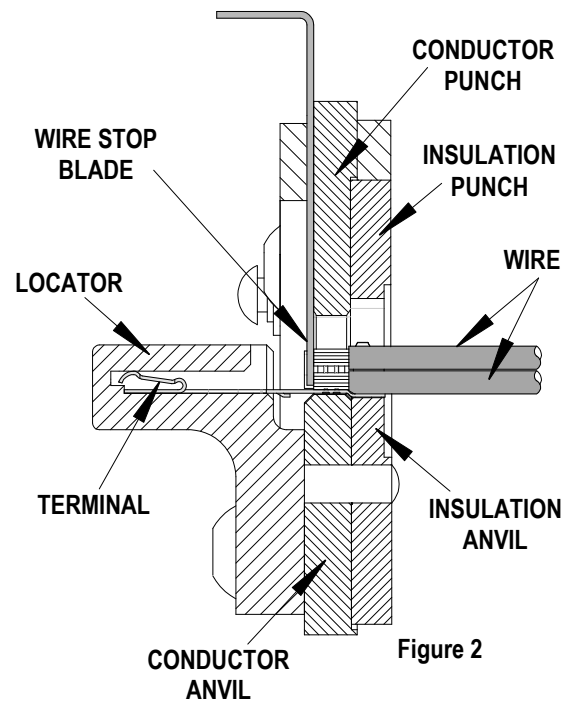

Figure 2
3. Place the pre-stripped wires into the terminal and move them forward against the wire stop. See Figure 2.